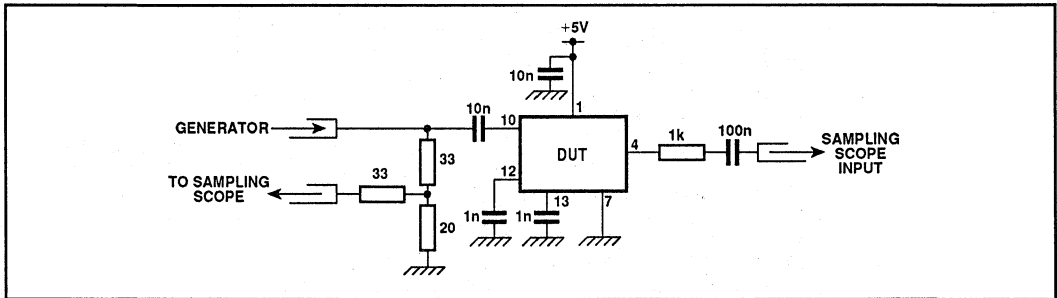

Fig. 5 Test circuit
1. The test configuration for dynamic testing is shown in Fig.5.